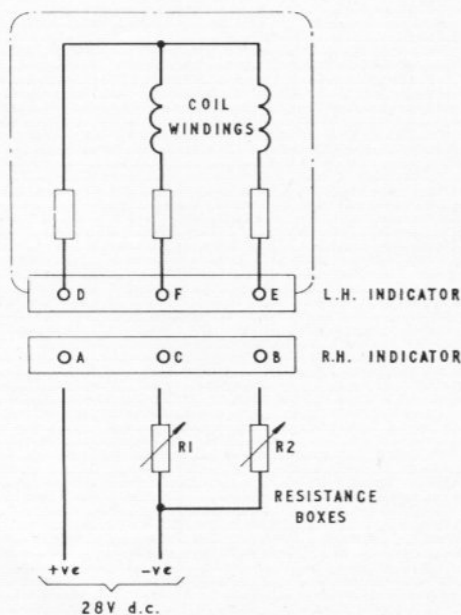

Fig. 2. Circuit and test circuit diagram
3. The combined circuit and test circuit diagram is shown in fig. 2. Connection to the indicator is made via a six-pole Mk. 4 plug, at the rear of the indicator.